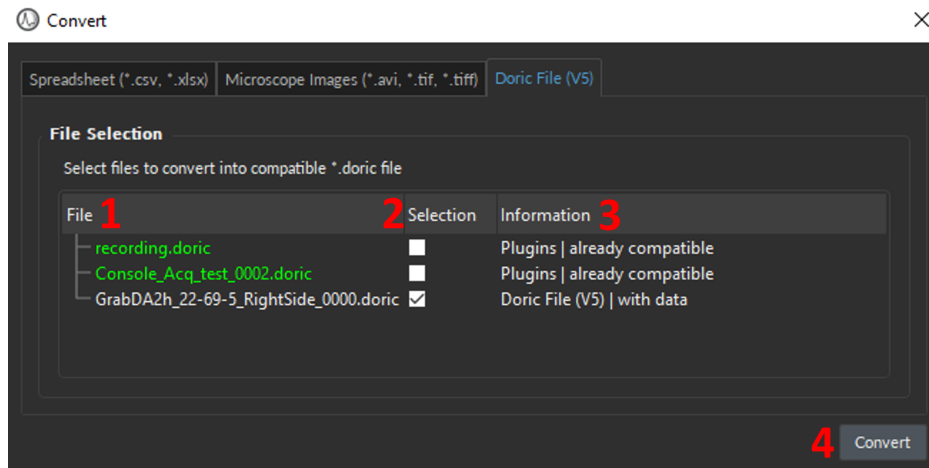
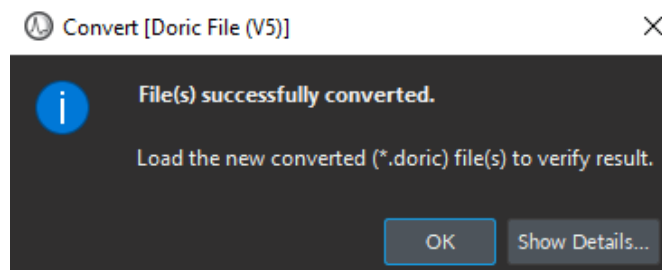

Figure 13.15: Convert Window, V5 Doric File Tab
Figure 13.16: Convert V5 Doric File, Process Complete Pop-up
To **Convert** v5 .doric files to v6, the **Doric File (V5)** tab (Fig. 13.15) includes the following parameters:
1. The **File** column (Fig. 13.15, 1) lists all of the .doric files contained within the **File Manager** (Fig. ??, 2). If the filename(s) are in green, then the folder is already in v6 .doric format and cannot be converted again. If the filename is in gray, it isn't in v6 format. However, if the filename is in red, then the data cannot be converted since it is most likely a V5 configuration file.
2. The **Selection** column (Fig. 13.15, 2) contains a checkbox where multiple files can be selected simultaneously for conversion. *NOTE THAT* Selecting a green file will give an error message.
3. The **Information** column (Fig. 13.15, 3) details whether a file was already converted. This section can even detect whether a V5 Doric File contains data or is a configuration file.
4. The **Convert** button (Fig. 13.15, 4) initiates the conversion process. Converted files will be saved in the same directory/folder as the original file, named as `FILENAME_converted_mmmddyyyy`. A **Process Complete** pop-up window (Fig. 13.16) will be displayed if the conversion was successful. To view the file in the **File Manager** you must first load it (See Section 13.2).